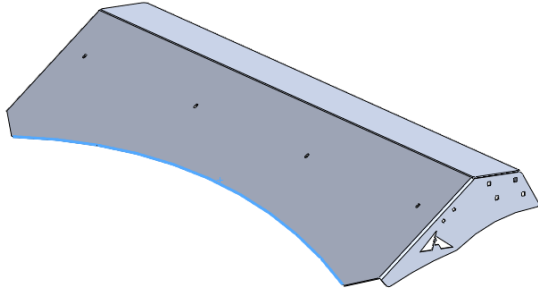

Figure 8: Rubber Trim Installation on Air Dam
- Install rubber trim along front edge of air dam (Figure 8).